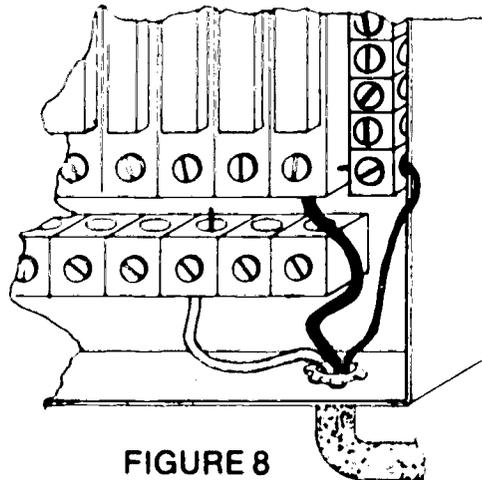

FIGURE 8
- P. Connect ungrounded conductor to appropriate overcurrent device (Figure 8)